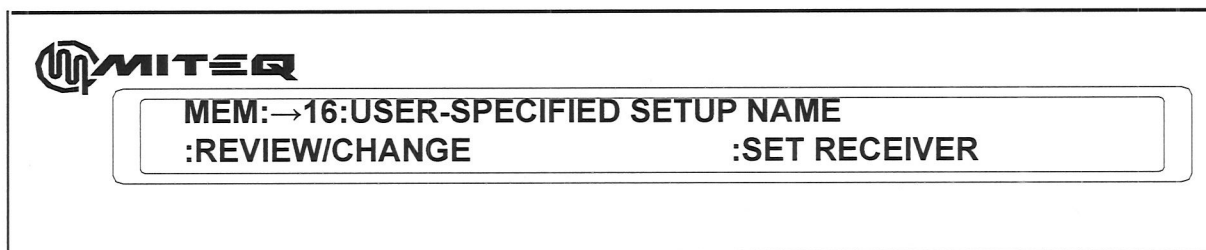

Figure 5-12. Memory Functions Menu Display #1
4. Use the "CURSOR" key to cycle through each of the fields that are stored in the memory location. The final screen of the memory menu will prompt to "QUIT", "SAVE", "SET" or "SAVE+SET" the parameters entered (See Figure 5-12).